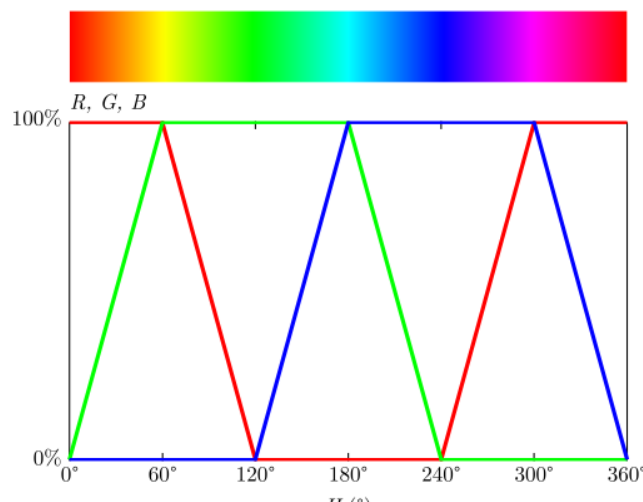
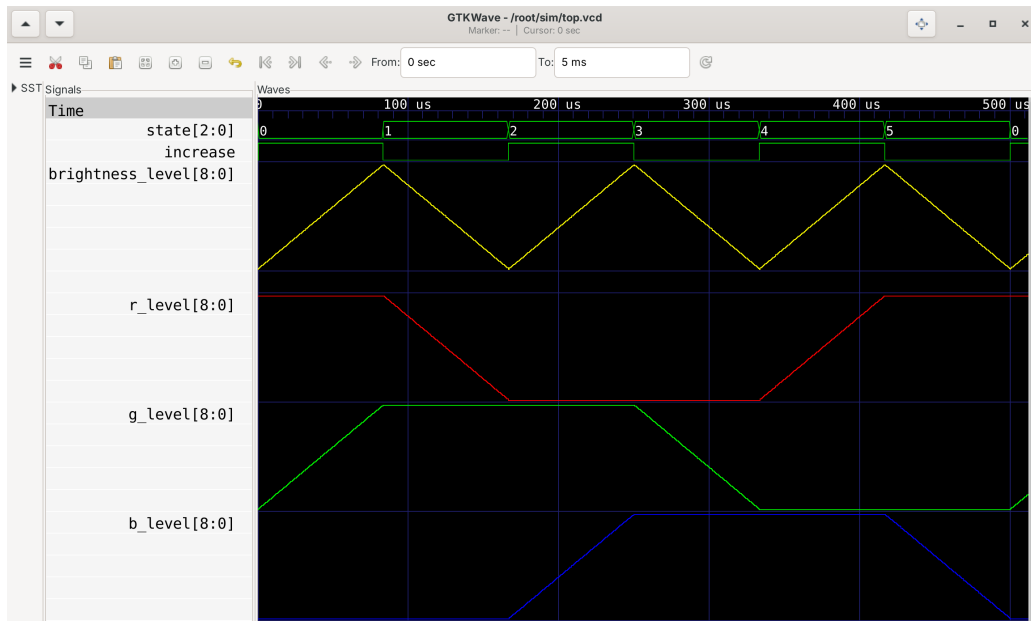

Figure 1. R, G, B duty cycle vs. hue angle, from the assignment.
Figure 4. One full color cycle from `top_tb.sv` in GTKWave (0 to 510 μ s, sped up 2000 $\times$). Levels are shown in analog format.
This design drives the RGB LED on the iceBlinkPico so it fades all the way around the HSV color wheel once per second. Each color channel is driven with PWM, and the brightness of each channel follows the R, G, B vs. hue graph from the assignment, shown in Figure 1.
In Figure 4, the top two rows are `state` and `increase`. You can see `state` step from 0 to 5 and `increase` flip every time the triangle turns around. The yellow trace is `brightness_level`, the shared triangle wave. The red, green, and blue traces are `r_level`, `g_level`, and `b_level`, the duty cycles going into the comparators (250 means 100%). Each one copies the triangle while its color is ramping and stays flat at 0 or 250 otherwise, which matches Figure 1.
At the zoom level of Figures 4 and 5, the PWM outputs switch far too fast to see. To show the PWM signals themselves, a third short test bench, `pwm_zoom_tb.sv`, runs the design with the real `STEP_INTERVAL` of 8000 so the duty cycle holds still for several PWM periods. It only records a 70 μ s window starting at 283.3 ms, which falls in state 1 (red fading out, green full on, blue off).
- `top_tb.sv`: test bench for Figure 4 (sped-up step interval)